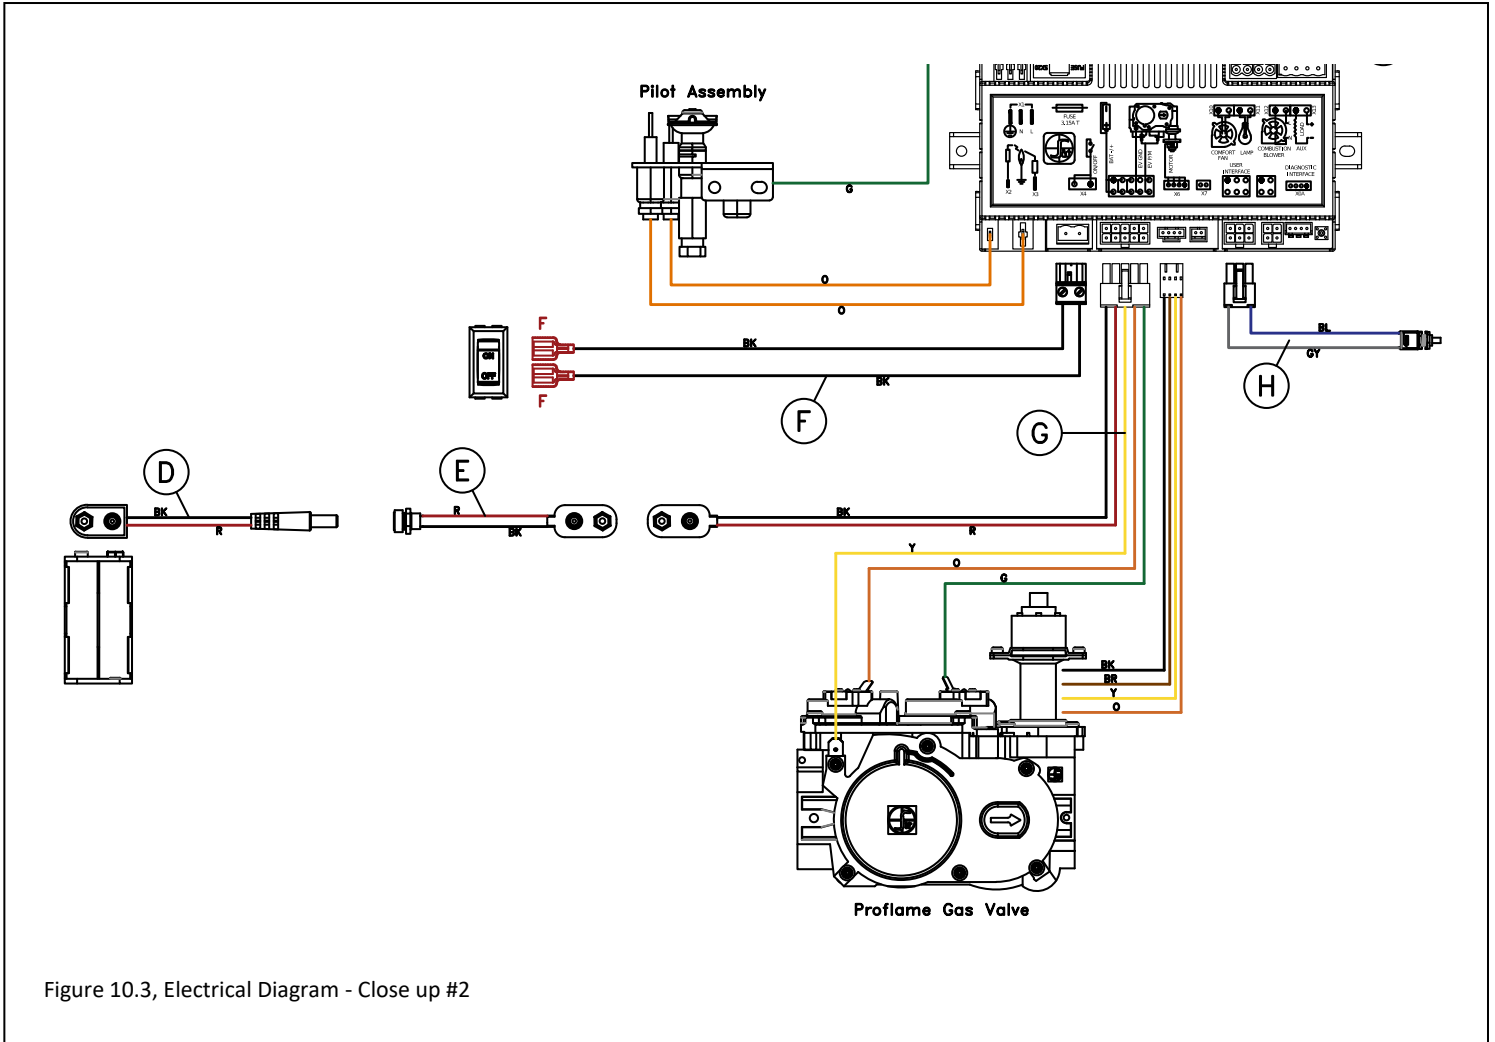

Figure 10.3, Electrical Diagram - Close up #2
- Figure 10.3 shows a close up of the wiring diagram. This figure shows the pilot assembly, on / off rocker switch, battery back-up, valve, and remote learn button